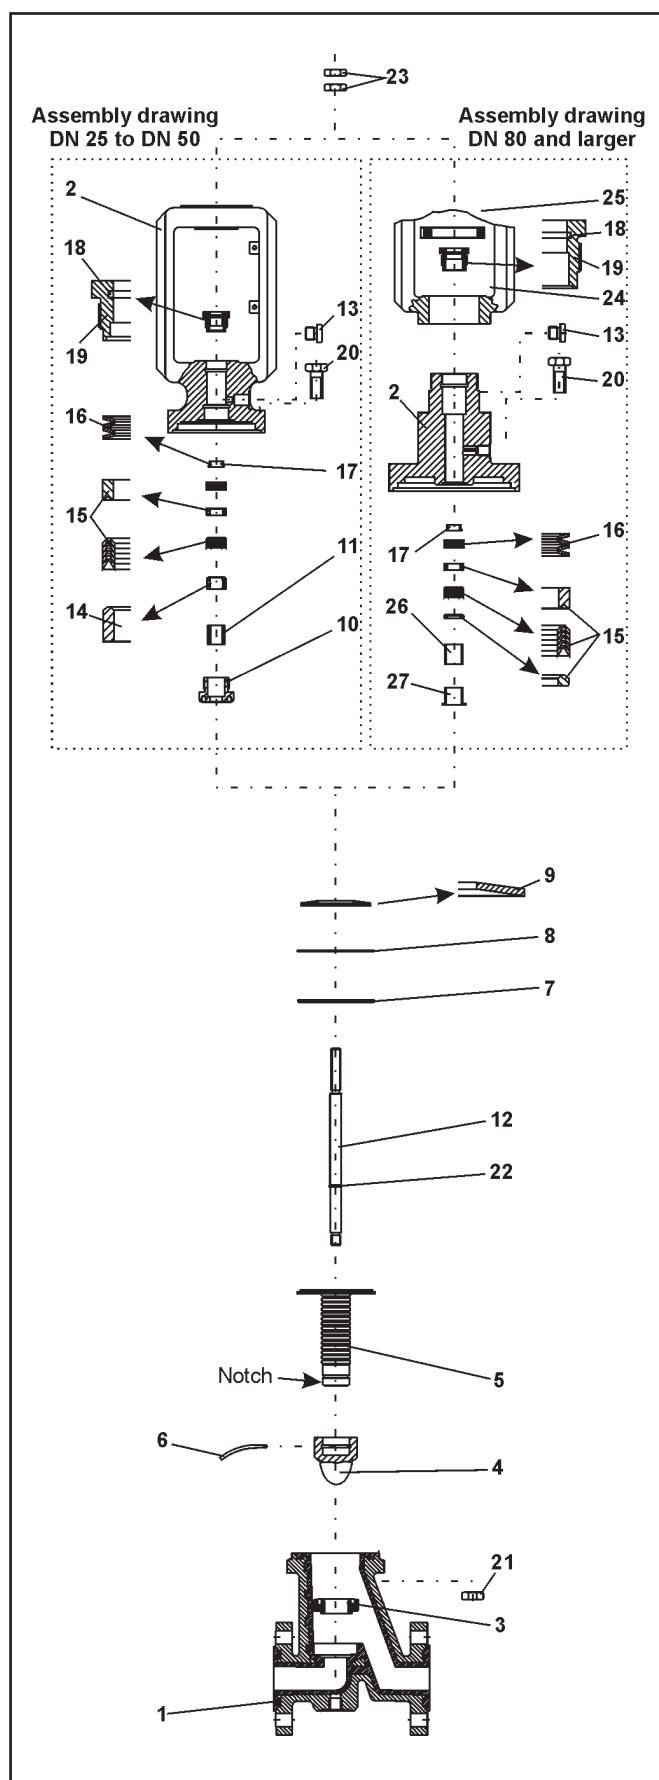

Fig 5 - Explosion drawing of Series 1b Control Valve, manufactured before 2006
Note: The position and arrangement of the individual parts shown in the explosion drawing (Fig. 5) must be observed when assembling the valve.
Place the set of spring washers (16) in the intended bore. Refer to the explosion drawing (Fig. 5) for the arrangement. Insert the final ring, the V-rings of the packing (15) and the distance bushing (14) in the correct order. Refer to the explosion drawing (Fig. 5) for the correct order.
Press the thrust washer, PTFE V-rings, final ring into the intended bore in the correct order. Refer to the explosion drawing (Fig. 5) for the arrangement of the V-ring packing. Insert the set of spring washers (16). Refer to the explosion drawing (Fig. 5) for the correct arrangement of the spring washers.
Insert the spring washer (9), thrust washer (8) and O-ring (7) into the bonnet flange (2). Refer to the explosion drawing (Fig. 5) for the arrangement of the parts.